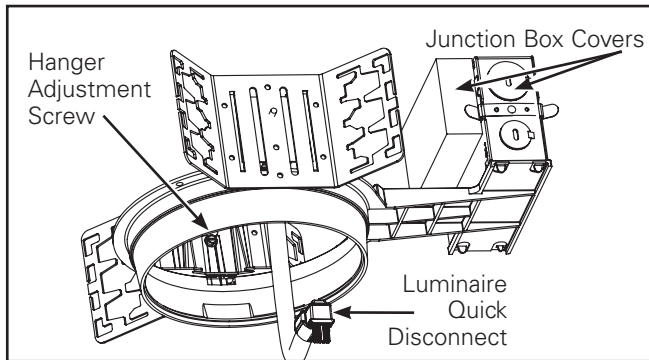
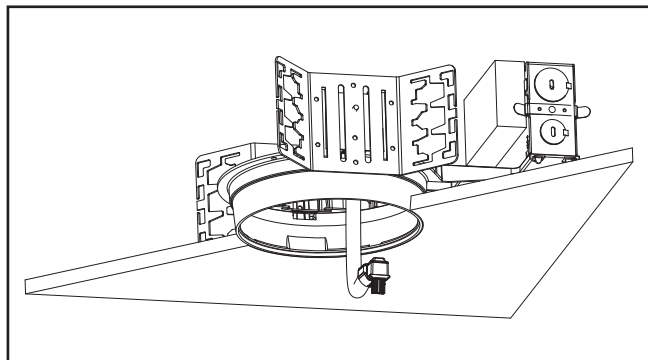

Figure 1
Figure 2
2. Hanger Adjustment Screw: Adjust hanger adjustment screws (Figure 1.) so bottom of plaster ring is flush with finished ceiling line. (Figure 2.) Hanger bracket is reversible for total adjustment of 5".
1. Place end of flexible conduit through frame opening in ceiling exposing upper portion of quick disconnect (Figure 2.).